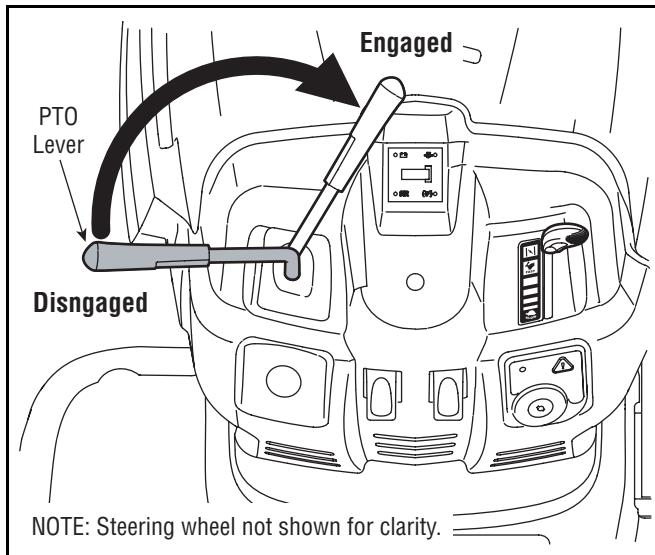

Figure 10
- Grasp the PTO (Blade Engage) lever and pivot it all the way forward into the engaged (ON) position. See Figure 10.